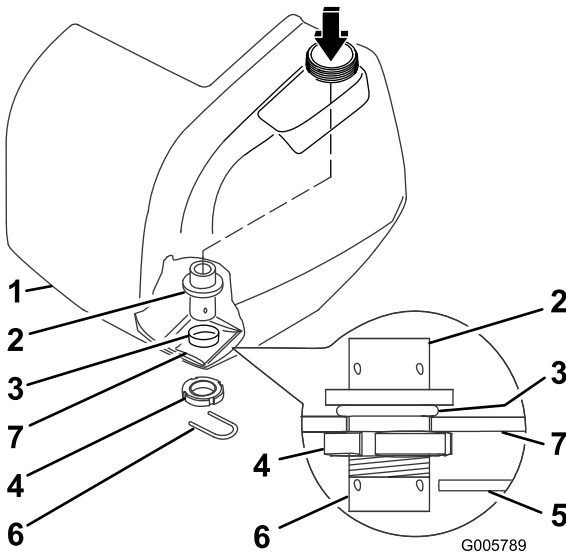

Figure 2
7. Insert the bulkhead fitting through top opening and maneuver it into place so that the seal side of the bulkhead fitting is in contact with the interior of the drilled tank opening (Figure 2).
8. Secure the new bulkhead fitting to the rinse tank using the plastic nut in loose parts as shown in Figure 2.
**Note:** The seal must be seated between the fitting and tank around the entire circumference of the hole edge (Figure 2).
**Note:** Orientate the bulkhead so that the retainer fork will come from the front to the back of the machine (Figure 2).